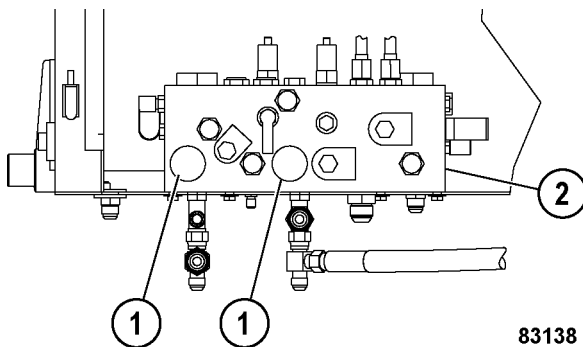

FIGURE 50-1. BRAKE MANIFOLD
2. Open bleed down valves (1 Figure 50-1) on brake manifold (2) to depressurize the brake accumulators.